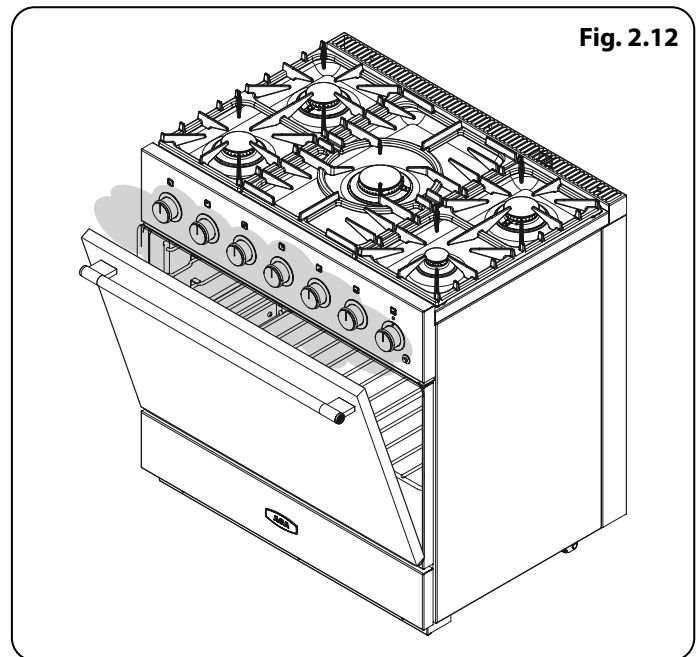

Fig. 2.13
- 2 flat racks with telescopic runners (**Fig. 2.13**)